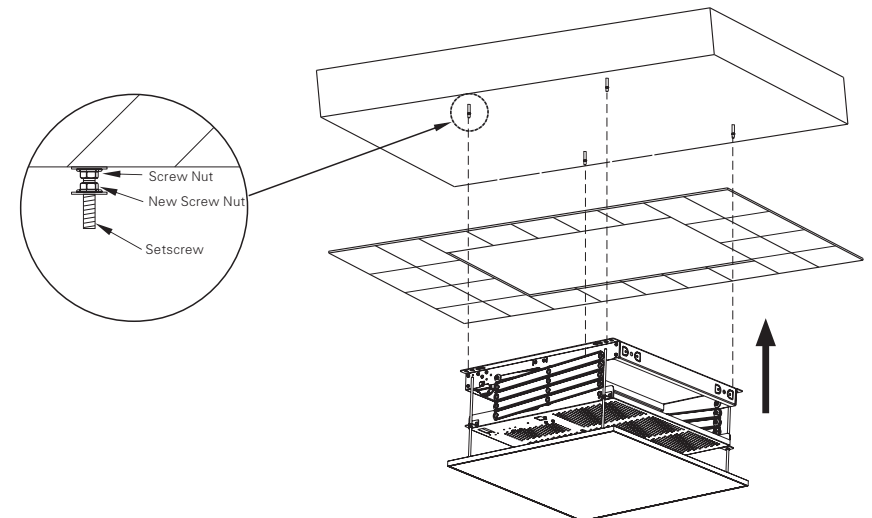

Figure 7
4. Install the projector lift and fasten. (Figure 7)